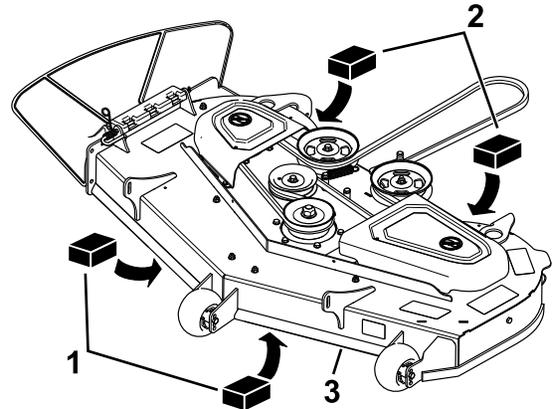

Figure 76
4. Place 2 blocks, each having a thickness of 6.6 cm (2-5/8 inches), under each side of the front edge of the deck but not under the anti-scalp roller brackets (Figure 76).
5. Place 2 blocks, each having a thickness of 7.3 cm (2-7/8 inches), under the rear edge of the cutting deck skirt, 1 on each side of the cutting deck (Figure 76).